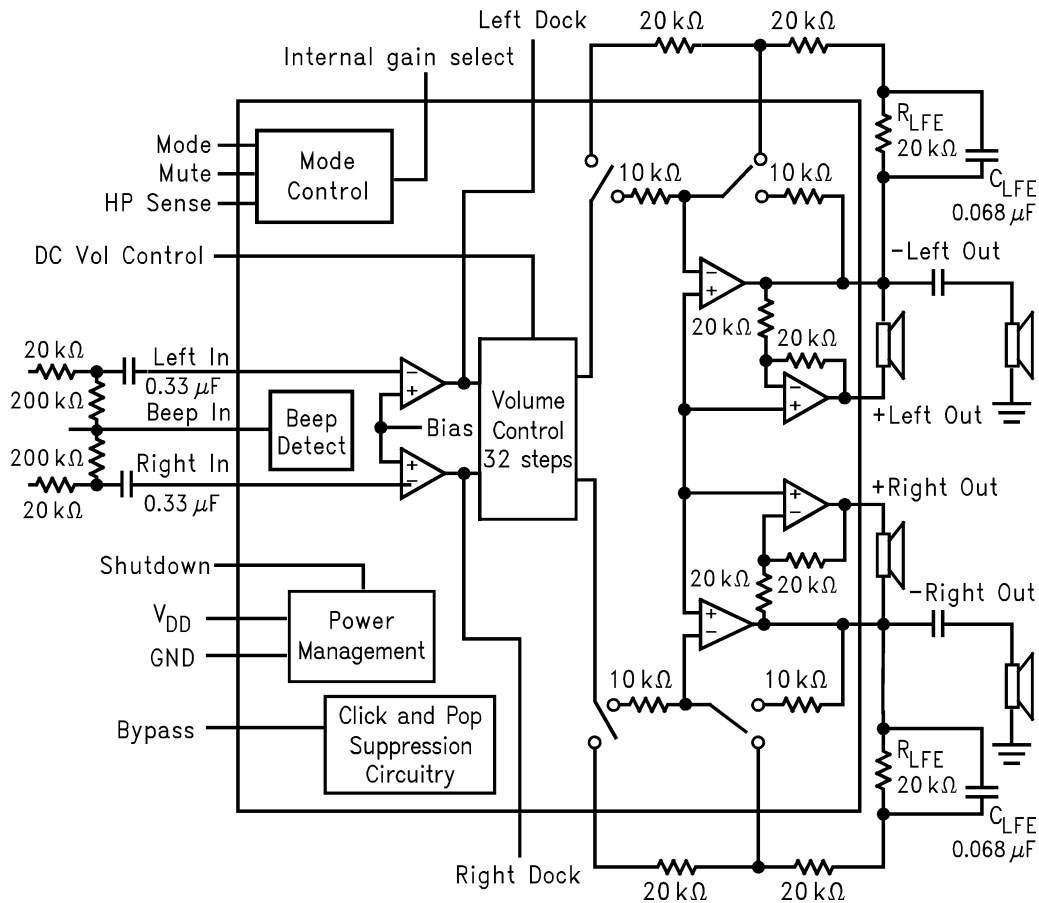

Figure 3. LM4835 Block Diagram
- (1) All voltages are measured with respect to the ground pins, unless otherwise specified. All specifications are tested using the typical application as shown in Figure 3.
- (2) Absolute Maximum Ratings indicate limits beyond which damage to the device may occur. Operating Ratings indicate conditions for which the device is functional, but do not ensure specific performance limits. Electrical Characteristics state DC and AC electrical specifications under particular test conditions which ensure specific performance limits. This assumes that the device is within the Operating Ratings. Specifications are not ensured for parameters where no limit is given, however, the typical value is a good indication of device performance.
- (3) Typicals are measured at  $25^\circ C$  and represent the parametric norm.
- (4) Datasheet min/max specification limits are ensured by design, test, or statistical analysis.
- (3) Typical values are measured at 25°C and represent the parametric norm.
- (5) When driving 3Ω loads and operating on a 5V supply, the LM4835MTE must be mounted to the circuit board and forced-air cooled.
- (6) When driving a 3Ω or 4Ω loads and operating on a 5V supply, the LM4835LQ must be mounted to the circuit board that has a minimum of 2.5in2 of exposed, uninterrupted copper area connected to the WQFN package's exposed DAP.
- (7) When driving 4Ω loads and operating on a 5V supply, the LM4835MTE must be mounted to the circuit board.